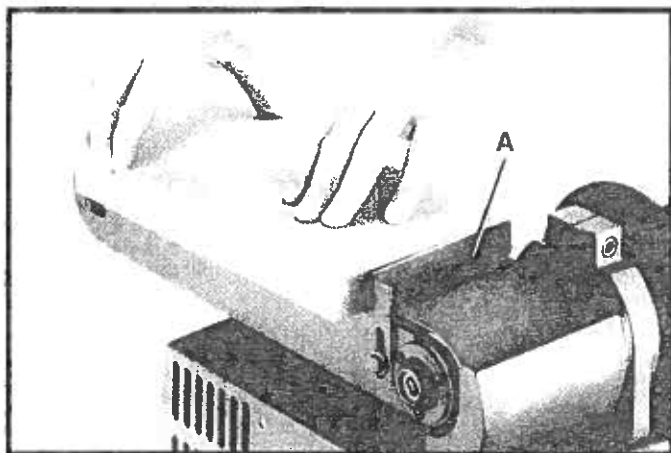
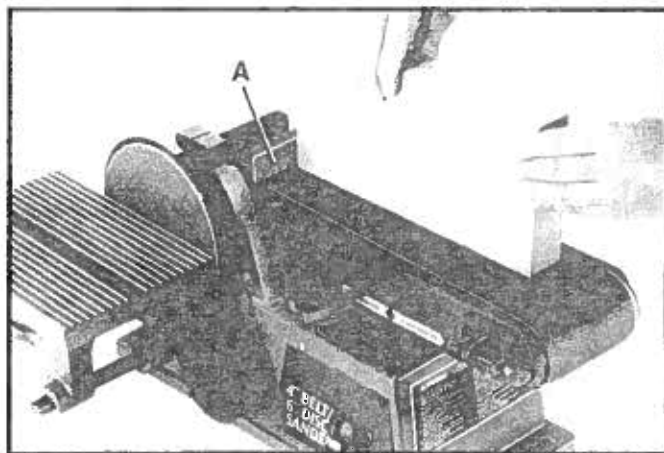

Fig. 45
Fig. 46
When surfacing, see Fig. 45, or edge sanding, see Fig. 46, the sanding arm is in the horizontal position and the backstop (A) Fig. 45 and Fig. 46, must always be used to prevent the workpiece from being carried along the belt. Always hold the workpiece firmly, keeping your fingers away from the sanding belt. Always keep the end of the workpiece against the backstop and move the workpiece evenly across the sanding belt. Apply only enough pressure to allow the sanding belt to remove material. Use extra caution when sanding very thin pieces.